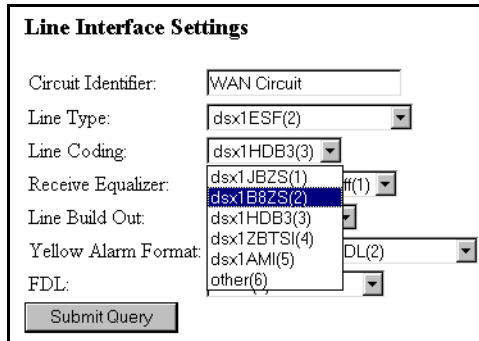

Figure 46. Line Coding pull-down menu with dsx1B8ZS(2) selected
- From the *Line Coding* pull-down menu (figure 46), select *dsx1B8ZS(2)* or *dsx1AMI(5)*.